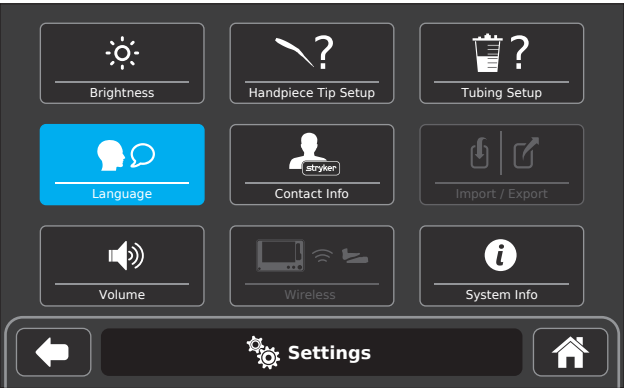

Figure 44 – Language Selection
- From the system SETTINGS screen, touch the LANGUAGE button (Figure 44). See Table 19 Display Screen Languages.